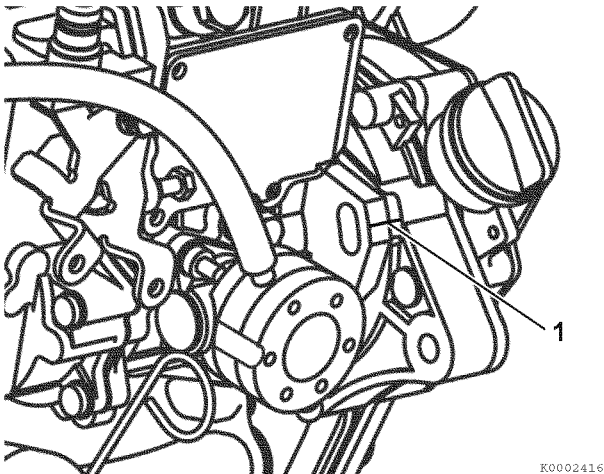

Figure 7-19
6. Align the reference marks (**Figure 7-19, (1)**) made during disassembly on both the fuel injection pump mounting flange and gear case. If installing a replacement fuel injection pump, align the manufacturer-applied mark on the pump mounting flange with the mark made on the timing gear cover.